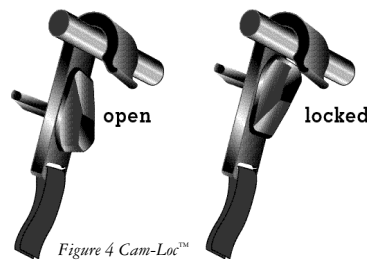

Figure 4: Cam-Loc™
are attached to both poles you may engage the Cam-Locs by turning the key 180° until they lock completely onto the pole. When the Cam-Loc is engaged the key should be horizontal. (Figure 4).